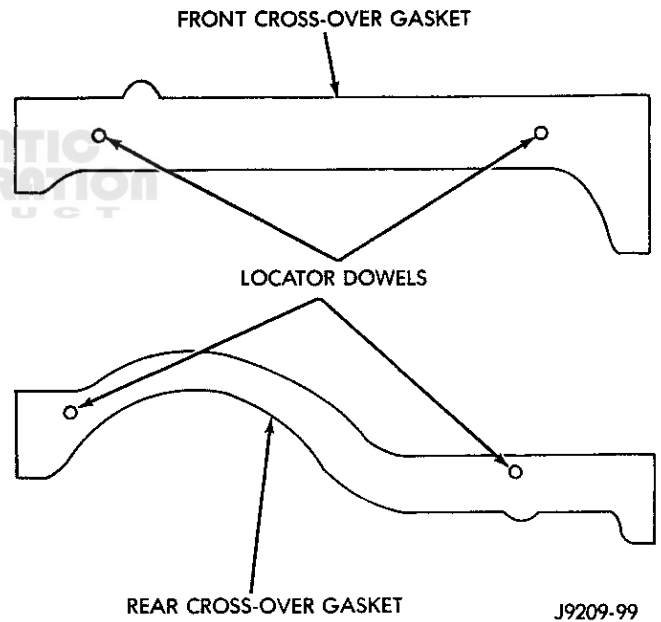

Fig. 16 Cross-Over Gaskets and Locator Dowels
(5) Install push rods and rocker arm assemblies in their original position. Tighten the bolts to 28 N•m (21 ft. lbs.) torque.
(6) Place the 4 plastic locator dowels into the holes in the block Fig. 16).
(7) Apply Mopar Silicone Rubber Adhesive Sealant, or equivalent, to the four corner joints. An excessive amount of sealant is not required to ensure a leak proof seal. However, an excessive amount of sealant may reduce the effectiveness of the flange gasket. The sealant should be slightly higher than the cross-over gaskets, approx. 5 mm (0.2 in).
(8) Install the front and rear cross-over gaskets onto the dowels (Fig. 16).